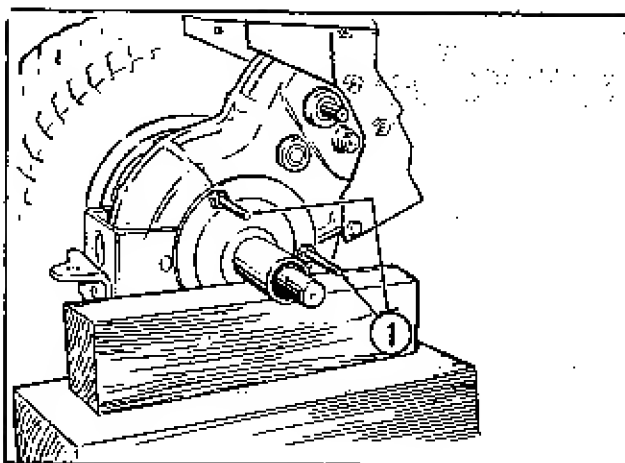

Figure 1
2. Remove two hex capscrews from the transmission case and insert the two long studs #1, Fig. 1, into the vacant bolt holes as shown. Tighten securely.